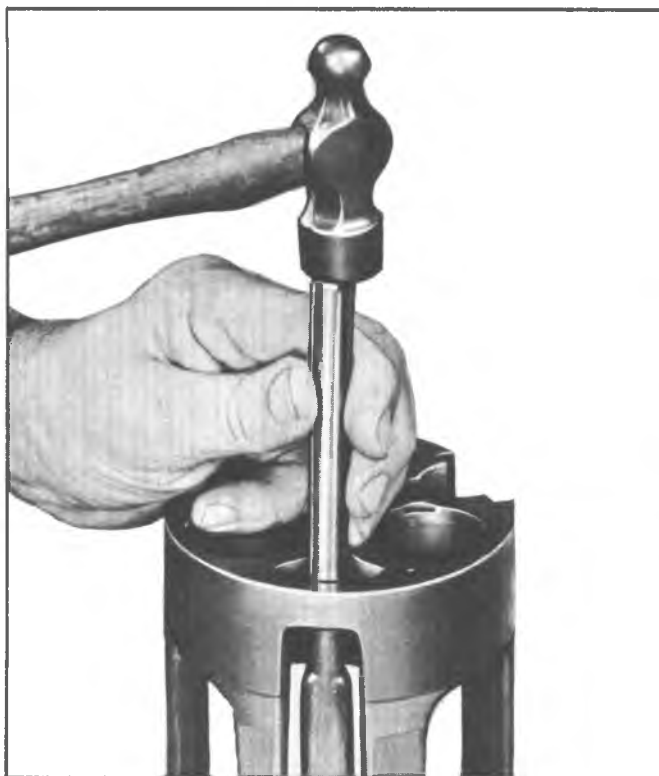

Fig. 18--Unseating Discharge Crossover Tube
2. Use an old discharge tube to drive discharge tube out of cylinder (fig. 18): Drive from REAR of cylinder.